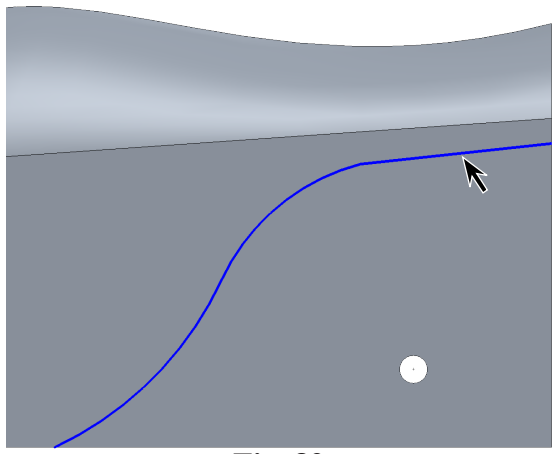

Fig. 82
Step 8. Click **Line**  (L) on the Sketch toolbar.
Step 9. Sketch line from top endpoint of centerpoint arc to back edge of body at a slight angle, **Fig. 82**.